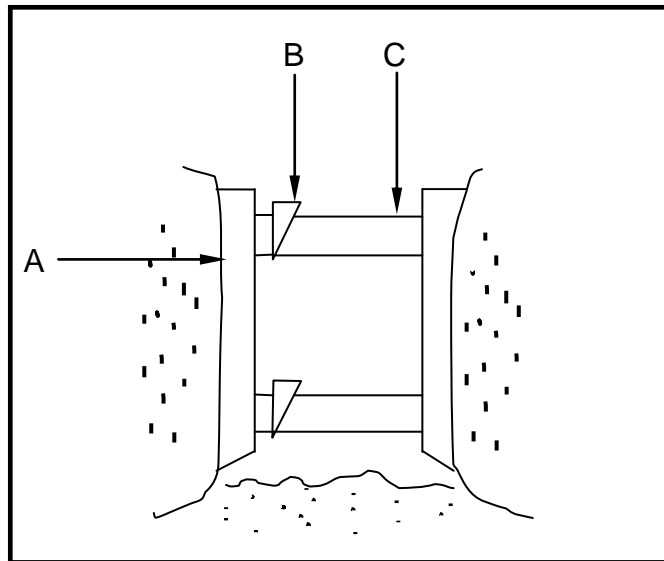

FIGURE 3.4
- 3.4 FIGURE 3.4 below shows the side elevation of shoring for wet or loose soil in a trench. Study the drawing and answer the questions that follow.